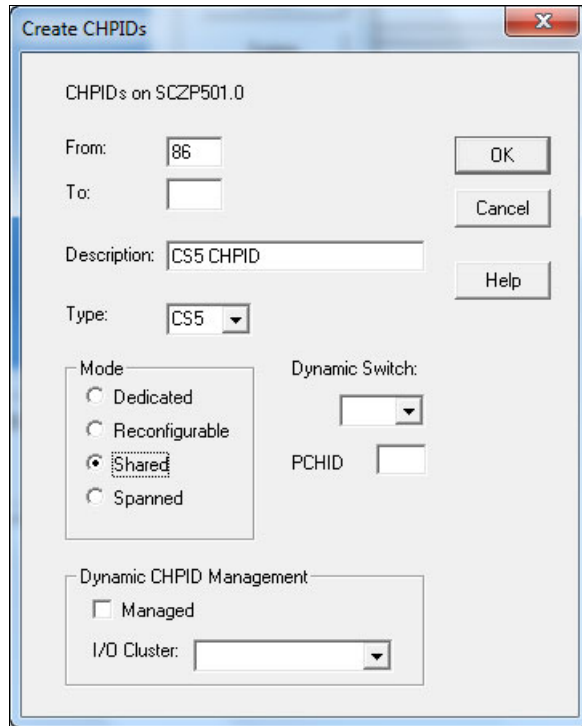

Figure 5-24 HCM - Create CHPIDs: defining a CS5 CHPID
5. Enter the following values in the Create CHPIDs window, then click **OK**. See Figure 5-24 on page 183.